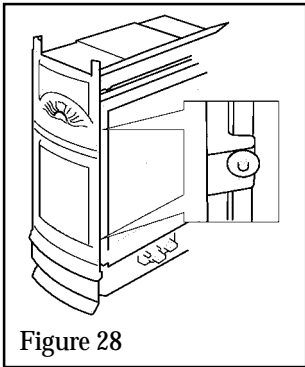

Figure 28
2. Fit the sides to the engine unit case with two machine screws and washers per side. See figure 28.